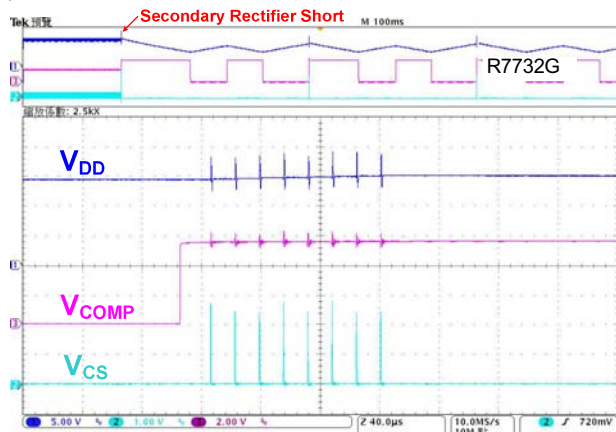

Figure 9. Secondary Rectifier Short Protection
- **Secondary Rectifier Short Protection:** As shown in Figure 9. The current spike during secondary rectifier short test is extremely high because of the saturated main transformer. Meanwhile, the transformer acts like a leakage inductance. During high line, the current in power MOSFET is sometimes too high to wait for OLP delay time. To offer better and easier protection design, R7732 shut down the controller after couples of cycles before fuse is blown up.